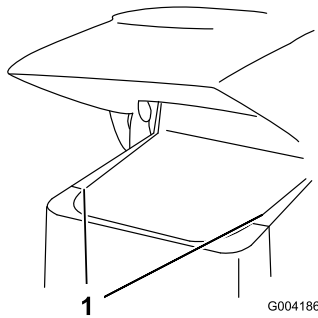

Figure 25
2. Slide the side screens (Figure 25) up and out of the slots in the front screen and frame.